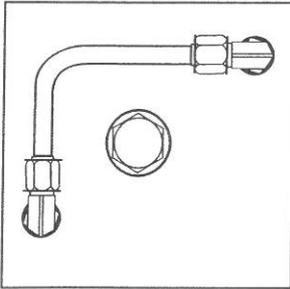

Fig.20 - Correct
**Keep pipes away from components that require regular maintenance.** (See figures 20 and 21)